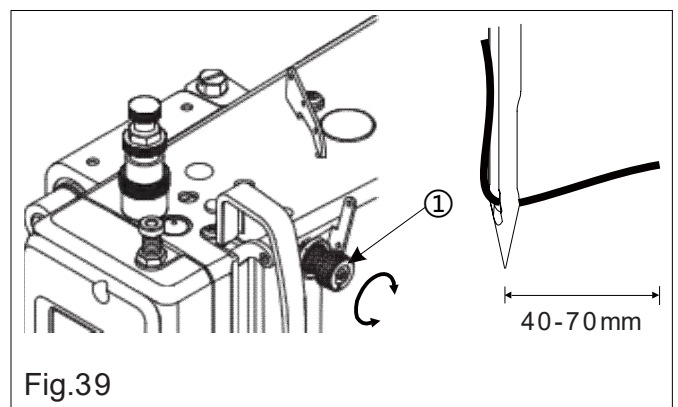

Fig.39
28. Adjusting the trailing length after thread trimming (Fig.39)